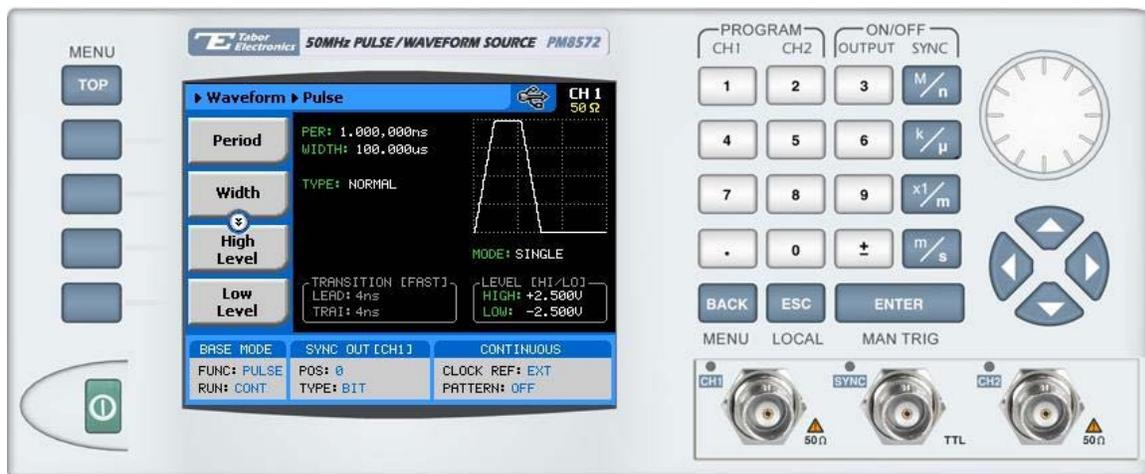

Figure 3-16, the Pulse Generator Menus
4. Press the Enter button to select the pulse generator function. Figure 3-16 shows the Pulse Generator panel and menus.